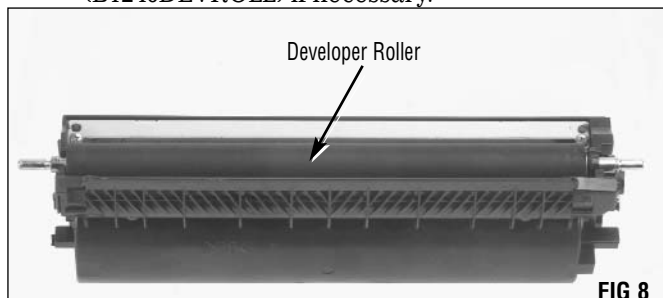

FIG 8
- Carefully remove the developer roller from the cartridge and clean with dry, filtered compressed air and a lint-free cloth, dampened with water (if necessary) (FIG 8). Inspect for damage and replace with SCC's developer roller (B1240DEVROLL) if necessary.